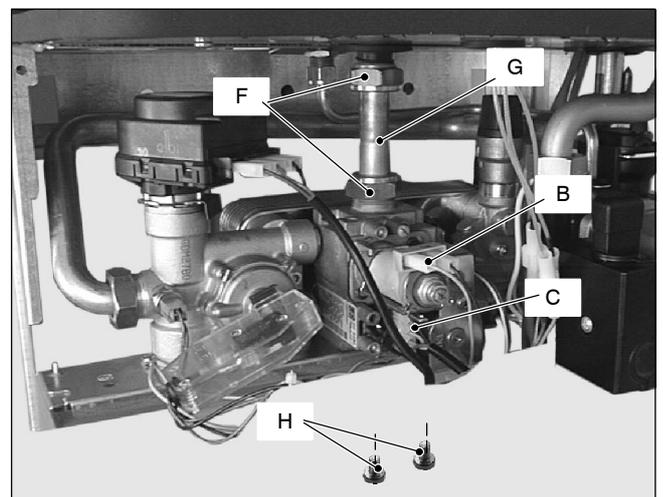

Fig. 45
- 2 Disconnect the connectors *B* (Fig. 45) from the modulating operator and measure the electrical resistance of the coil. Its electrical resistance value must be approx. $80 \Omega^*$.
- 2 Disconnect the electrical connector *C* (Fig. 45).
- 2 Disconnect the connectors *B* and *C* (Fig. 45).